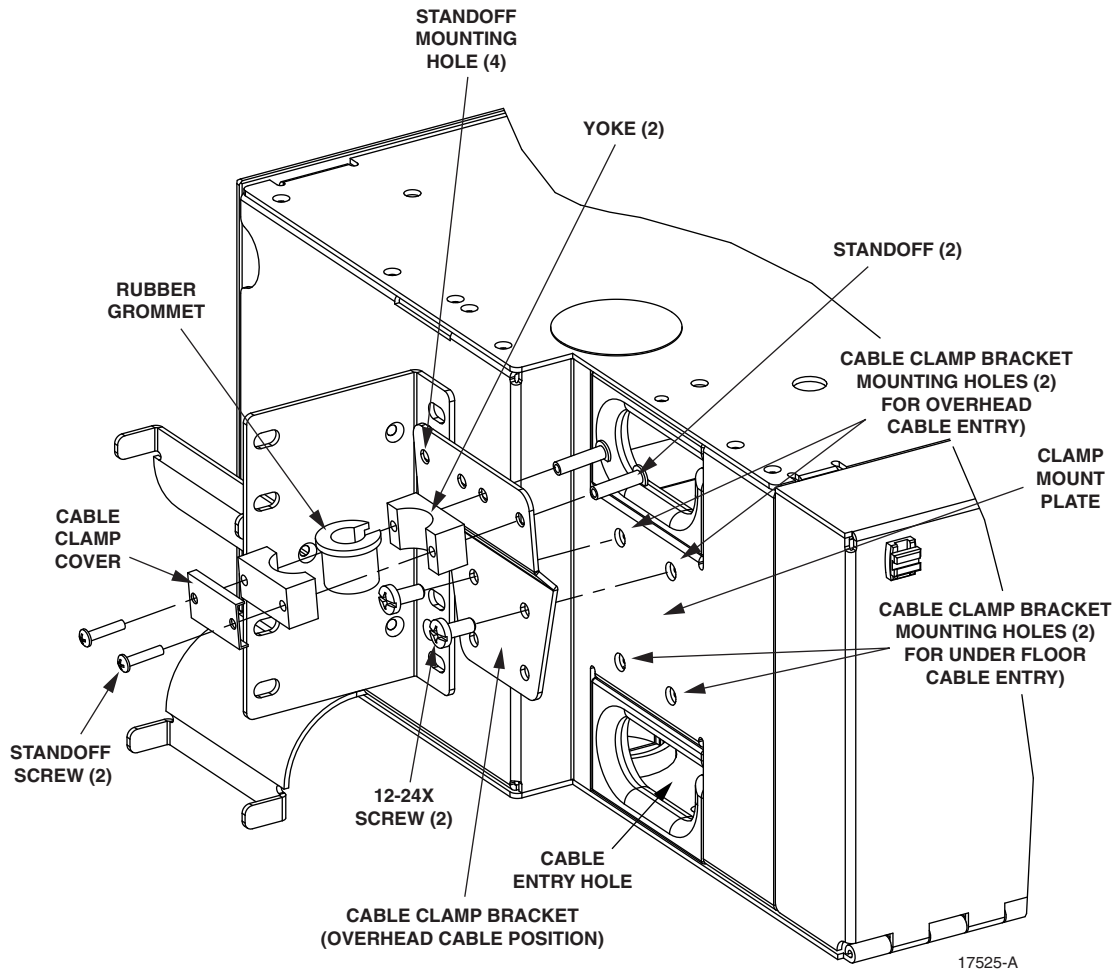
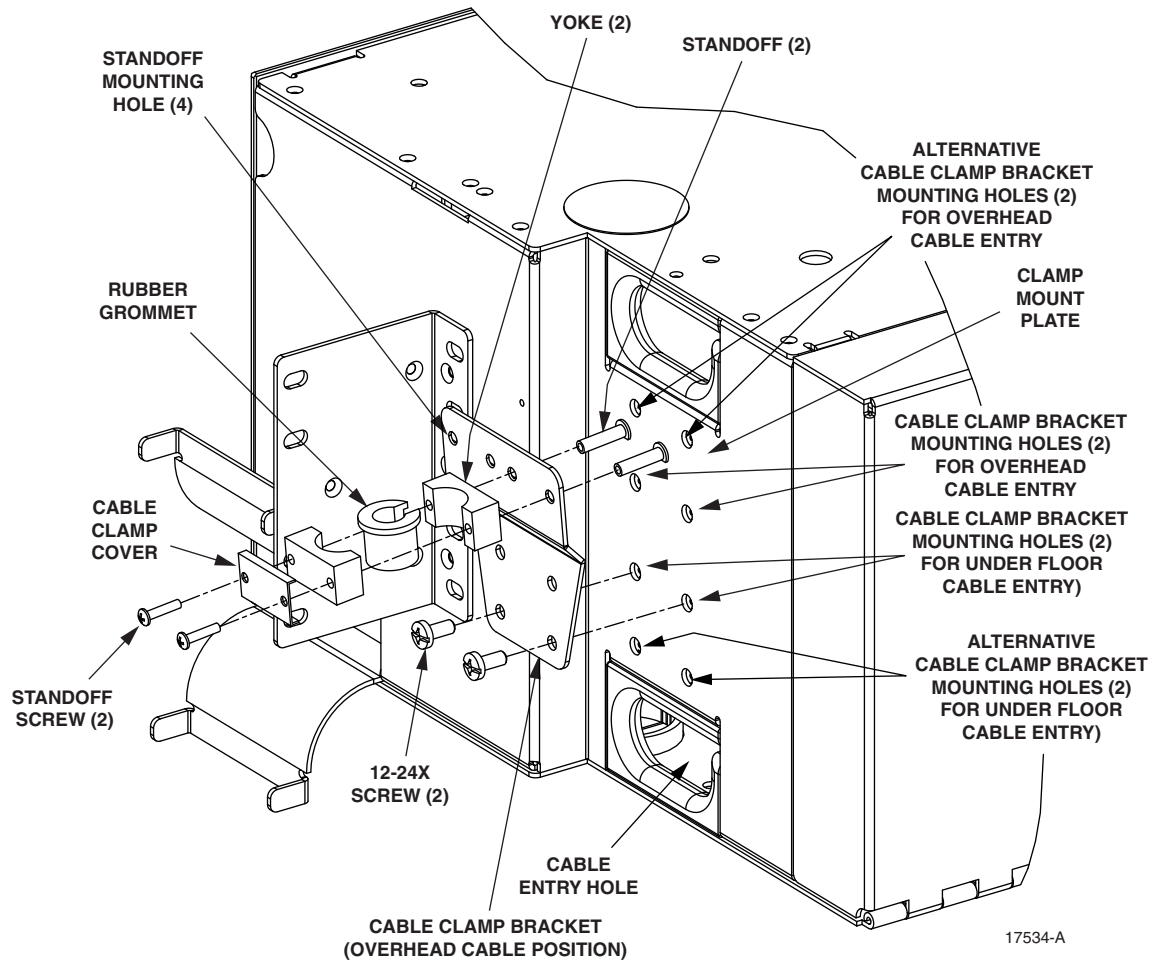

Figure 10. Installing a Cable Clamp (7-Inch Module)
Figure 11. Installing a Cable Clamp (9-Inch Module)
To install the cable clamp, use the following procedure. Refer to Figure 10 for the 7-inch panel and Figure 11 for the 9-inch panel.
- Working on the outside of the panel, where the cable bracket was installed, stack the cable clamp components on the standoffs, as shown in Figure 10 and Figure 11, with the cable secured within the rubber grommet. Position the cable so that the breakout point shown in Figure 8 and Figure 9 occurs just beyond the rubber grommet.
- Secure the cable clamp components to the standoffs using standoff screws, as shown in Figure 10 and Figure 11.